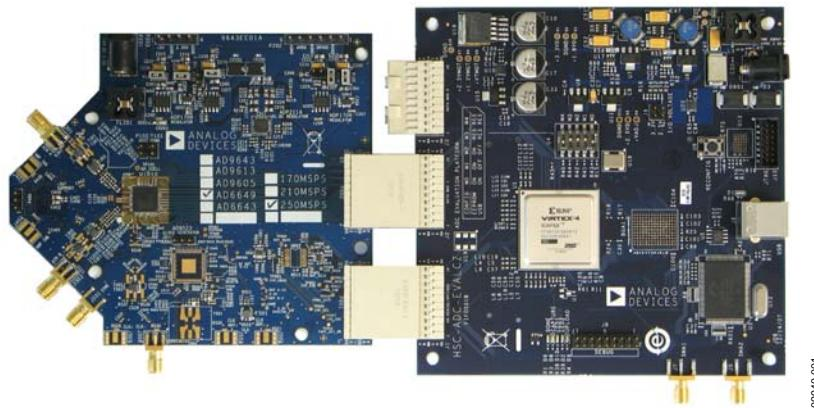
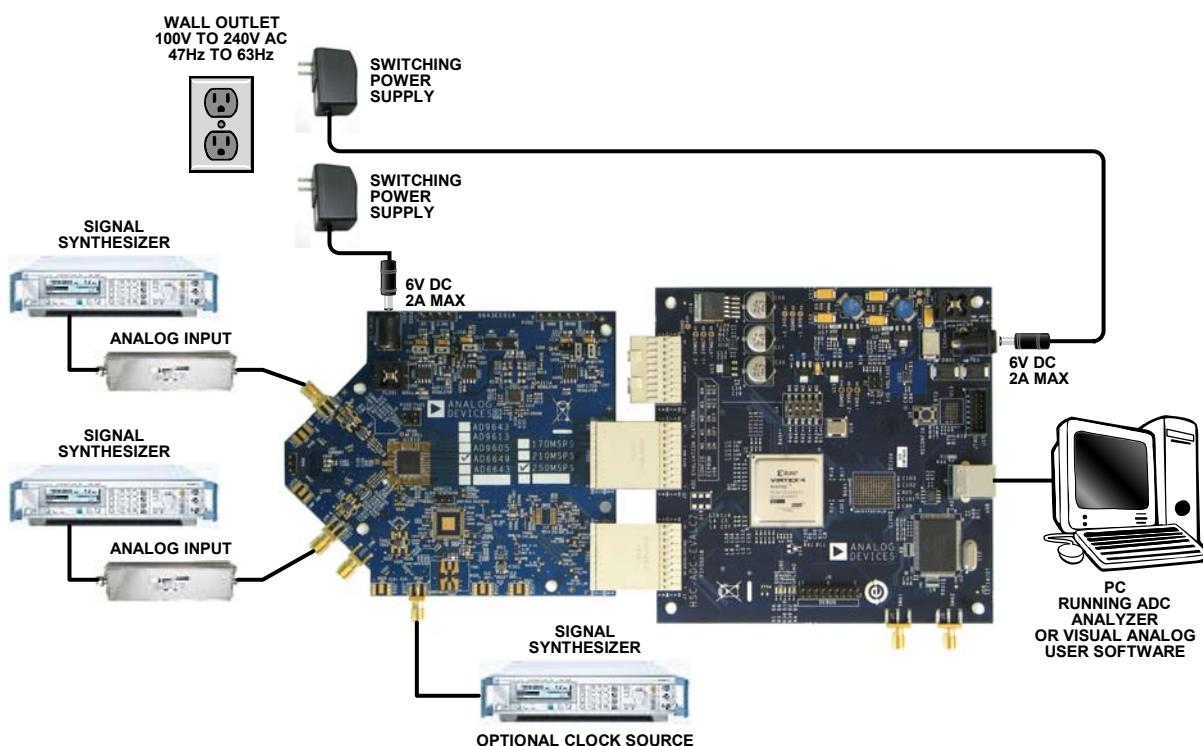

Figure 1. AD9643, AD9613, AD6649, or AD6643 Family Evaluation Board and HSC-ADC-EVALCZ Data Capture Board
Figure 2. Evaluation Board Connection
The AD9643, AD9613, AD6649, or AD6643 evaluation board provides all of the support circuitry required to operate these devices in their various modes and configurations. Figure 2 shows the typical bench characterization setup used to evaluate the ac performance of the AD9643, AD9613, AD6649, or AD6643. It is critical that the signal sources used for the analog input and the clock have very low phase noise (<1 ps rms jitter) to achieve the optimum performance of the signal chain. Proper filtering of the analog input signal to remove harmonics and lower the integrated or broadband noise at the input is necessary to achieve the specified noise performance.
1. Connect the evaluation board to the data capture board, as shown in Figure 1 and Figure 2.